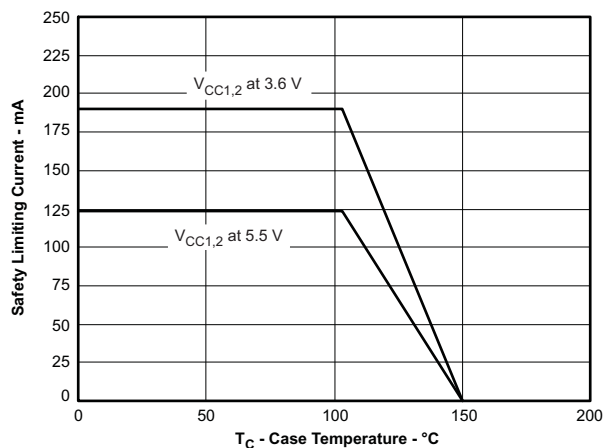

Figure 6. SOIC-8 THERMAL DERATING CURVE
- Made editorial and cosmetic changes throughout the document - Change standard names From: 'IEC 60747-5-2 (VDE 0884, Rev 2), IEC 61010-1' To: 'DIN VDE V 0884-11:2017-01, DIN EN 61010-1' and add 'IEC 62368-1' in FEATURES - Updated REGULATORY INFORMATION table - Changed V_I voltage rating From: '-0.5 V to 6 V' To: '-0.5 V to $V_{CC} + 0.5$ V' in ABSOLUTE MAXIMUM RATINGS table - Added the following note to V_I parameter: 'Maximum voltage must not exceed 6V' in ABSOLUTE MAXIMUM RATINGS table - Deleted typical values (TYP) for 'Input pulse width' and 'Signaling rate' specifications in RECOMMENDED OPERATING CONDITIONS table - Added 'Ambient temperature' specification in RECOMMENDED OPERATING CONDITIONS table - Changed 'Propagation delay' maximum (MAX) limit for ISO722xA From: 480 ns To: 600 ns in SWITCHING CHARACTERISTICS at $V_{CC1} = V_{CC2} = 5$ V $\pm$ 10% - Changed 'Pulse-width distortion' maximum (MAX) limit for ISO722xA From: 14 ns To: 18 ns in SWITCHING CHARACTERISTICS at $V_{CC1} = V_{CC2} = 5$ V $\pm$ 10% - Changed 'ISO722xA' to 'ISO7220A' and deleted 'ISO722xC' row from 'Channel-to-channel output skew' specification in SWITCHING CHARACTERISTICS at $V_{CC1} = V_{CC2} = 5$ V $\pm$ 10% - Changed 'Propagation delay' maximum (MAX) limit for ISO722xA From: 480 ns To: 585 ns in SWITCHING CHARACTERISTICS at $V_{CC1} = 5$ V $\pm$ 10%, $V_{CC2} = 3.3$ V $\pm$ 10% - Changed 'Pulse-width distortion' maximum (MAX) limit for ISO722xA From: 14 ns To: 18 ns in SWITCHING CHARACTERISTICS at $V_{CC1} = 5$ V $\pm$ 10%, $V_{CC2} = 3.3$ V $\pm$ 10% - Changed 'ISO722xA' to 'ISO7220A' and deleted 'ISO722xC' row from 'Channel-to-channel output skew' specification in SWITCHING CHARACTERISTICS at $V_{CC1} = 5$ V $\pm$ 10%, $V_{CC2} = 3.3$ V $\pm$ 10% - Changed 'Propagation delay' maximum (MAX) limit for ISO722xA From: 480 ns To: 605 ns in SWITCHING CHARACTERISTICS at $V_{CC1} = 3.3$ V $\pm$ 10%, $V_{CC2} = 5$ V $\pm$ 10% - Changed 'Pulse-width distortion' maximum (MAX) limit for ISO722xA From: 18 ns To: 22 ns in SWITCHING CHARACTERISTICS at $V_{CC1} = 3.3$ V $\pm$ 10%, $V_{CC2} = 5$ V $\pm$ 10% - Changed 'ISO722xA' to 'ISO7220A' and deleted 'ISO722xC' row from 'Channel-to-channel output skew' specification in SWITCHING CHARACTERISTICS at $V_{CC1} = 3.3$ V $\pm$ 10%, $V_{CC2} = 5$ V $\pm$ 10% - Changed 'Propagation delay' maximum (MAX) limit for ISO722xA From: 485 ns To: 610 ns in SWITCHING CHARACTERISTICS at $V_{CC1} = V_{CC2} = 3.3$ V $\pm$ 10% - Changed 'Pulse-width distortion' maximum (MAX) limit for ISO722xA From: 18 ns To: 22 ns in SWITCHING CHARACTERISTICS at $V_{CC1} = V_{CC2} = 3.3$ V $\pm$ 10% - Changed 'ISO722xA' to 'ISO7220A' and deleted 'ISO722xC' row from 'Channel-to-channel output skew' specification in SWITCHING CHARACTERISTICS at $V_{CC1} = V_{CC2} = 3.3$ V $\pm$ 10% - Changed 'Tracking resistance' TEST CONDITIONS From: DIN IEC 60112 / VDE 0303 Part 1 To: DIN EN 60112 (VDE 0303-11) in IEC PACKAGE CHARACTERISTICS table - Deleted 'IEC 60747-5-2' from INSULATIONS CHARACTERISTICS table title - Added 'Maximum withstanding isolation voltage' specification of 2500 V_{RMS} in INSULATION CHARACTERISTICS table - Deleted 'θ_{JC}' and 'per IEC 60747-5-2' from Figure 6 title.	1 1 2 3 3 3 4 4 4 5 5 6 6 6 7 7 7 9 9 9 11